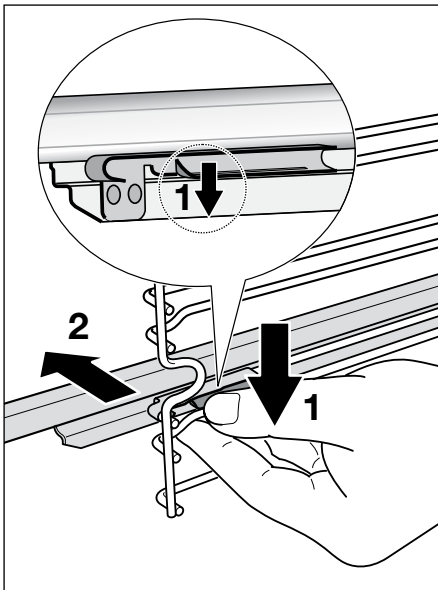

Fig.19 Removing the sliding shelf supports
- 3 Find the safety locks. These are the tabs that clip over the wire of the side rack (arrow 1 in Fig. 19).
- 4 Pull the safety locks away from the wire to release the wire (arrow 2 in Fig. 19)